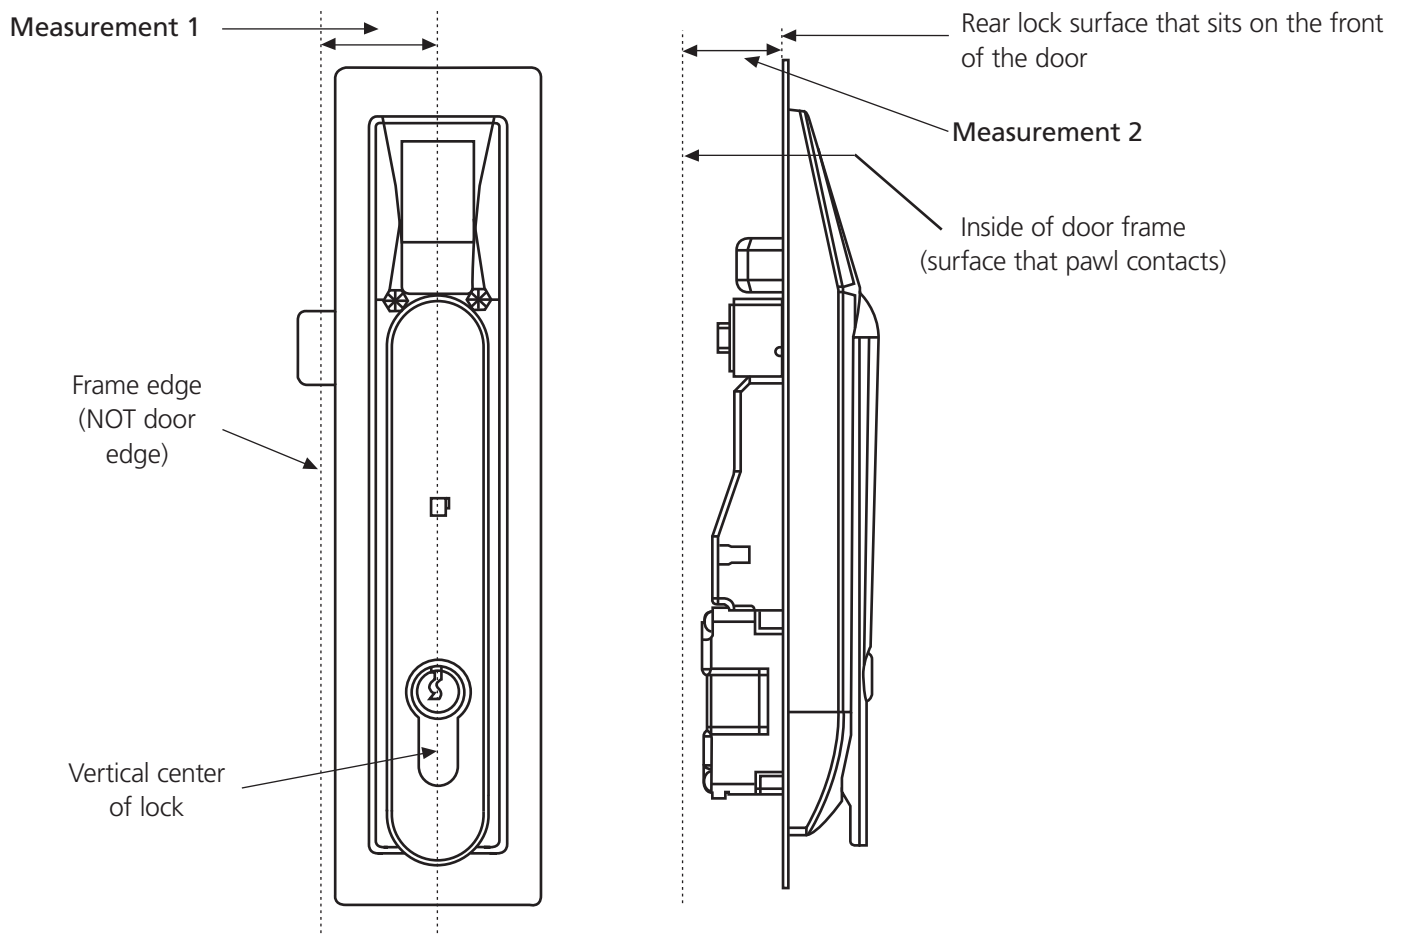

Figure 1. Measurements 1 and 2.
- Obtain the measurements as shown in Figure 1 and then contact Black Box Technical Support at 724-746-5500 or info@blackbox.com.